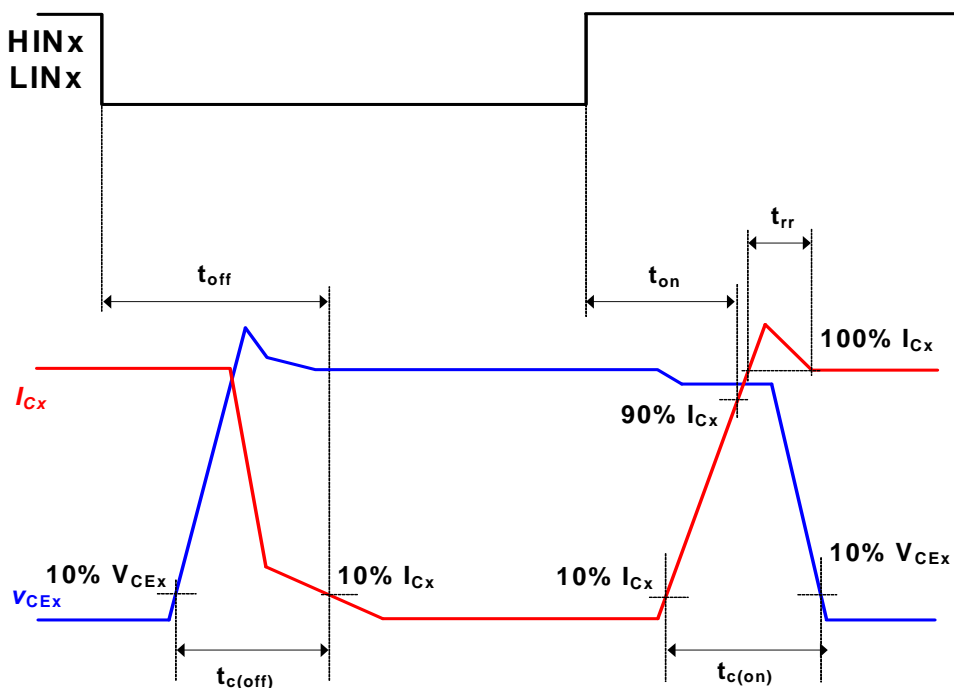

Figure 4. Switching Time
6. t_{ON} and t_{OFF} include the propagation delay of the internal drive IC. t_{C(ON)} and t_{C(OFF)} are the switching time of IGBT itself under the given gate driving condition internally. For the detailed information, please see Figure 4.